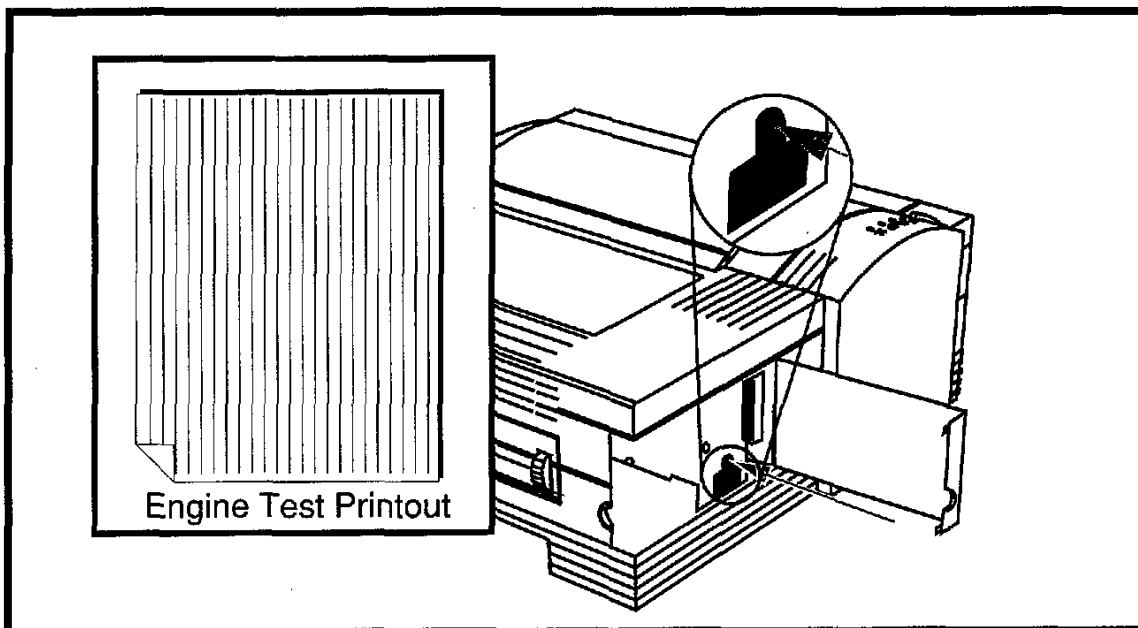

Figure 7-4 Engine Test Button and Printout, LaserJet 4L/4ML
On the LaserJet 4L/4ML, the engine test button is accessible **without removing the covers**, through the I/O Door area on the left side of the printer. To print an engine test, use a long object (such as a pencil) to press the engine test button (see Figure 7-4). (**Do not use a metal object.**) A single test page is printed.
7. Exert downward pressure on the the toner cartridge (through the light-blocking paper) while pressing the Engine Test button SW301 . Use a pencil or other non-metallic object to reach through the access hole in the Gear Train plate (similar to that shown in Figure 7-4).